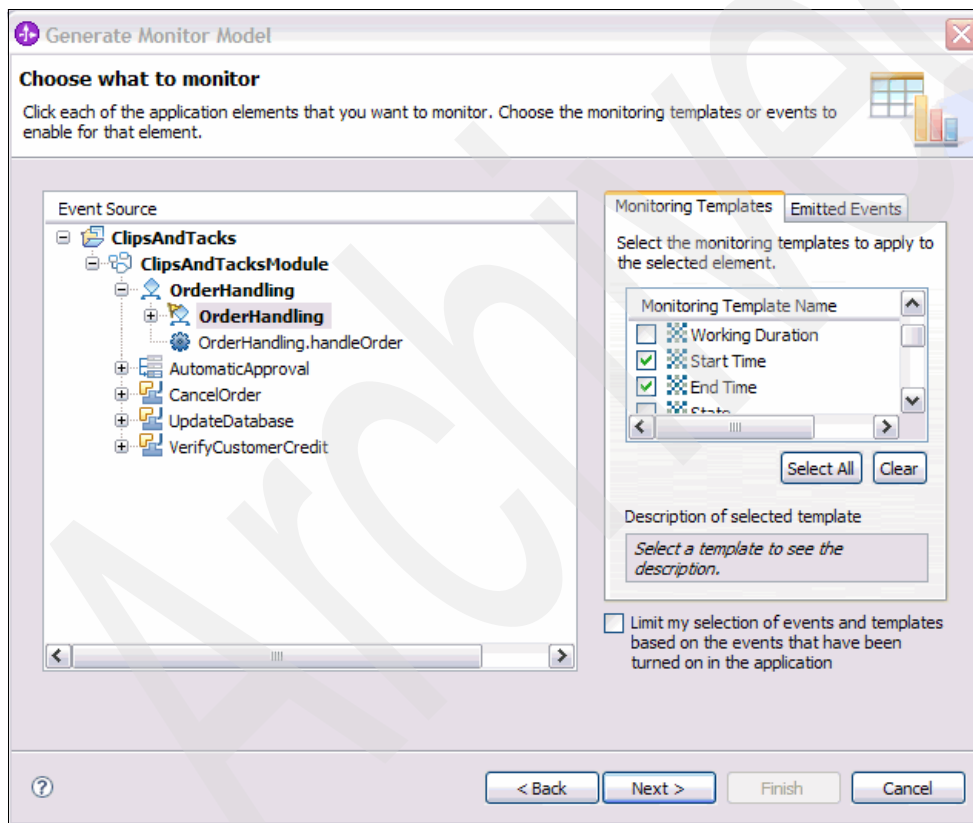

Figure 5-21 Selecting the process monitoring templates
5. In the Generate Monitor Model – Choose what to monitor window (Figure 5-21), select the events to be reflected in the monitor model for the process: